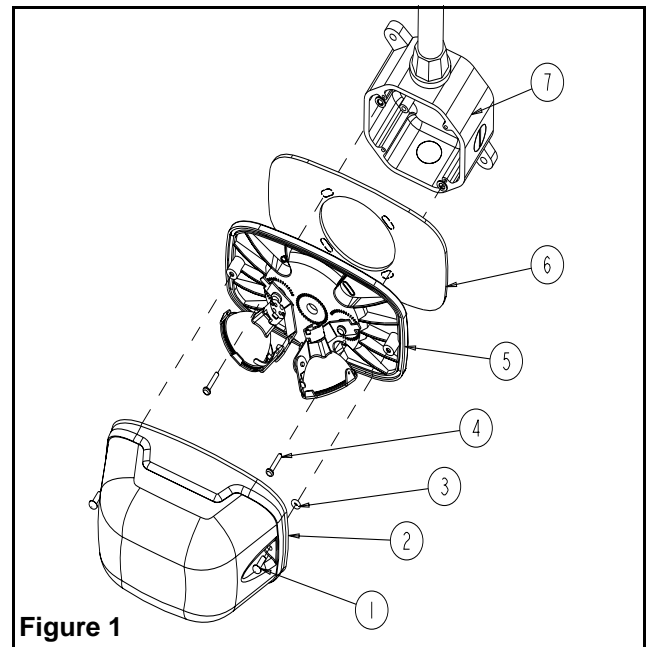

Figure 1
- a. Remove the clear cover (2).
- b. Disassemble the backplate (5) from the junction box (7) by removing the 2 junction box screws (4).
- c. Install the junction box on the wall (7).
- g. Before installing the cover, make sure there is no particules on the gaskets, this can affect sealing. Secure the cover to the back plate with the screws provided. Make sure the o-ring (3) are installed inside the cover, as shown of figure 1.